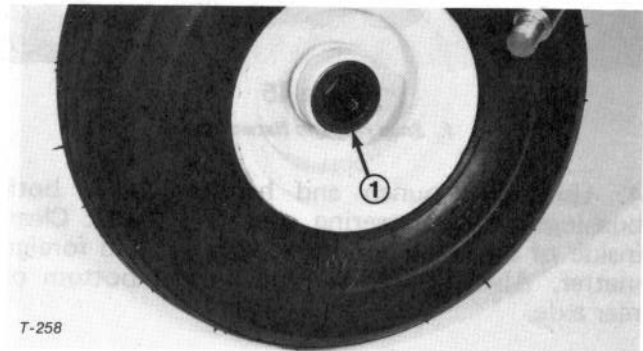

Figure 49
2. Remove dust cap from end of wheel spindle. Remove cotter pin, slotted nut, and washer, and slide wheel off spindle shaft. Pull seal out of wheel hub (Fig. 49).
5. Pack both bearings with grease. Install bearing into cup on inboard side of wheel hub. Lubricate inside of new lip seal and press it into the wheel hub (Fig. 49).